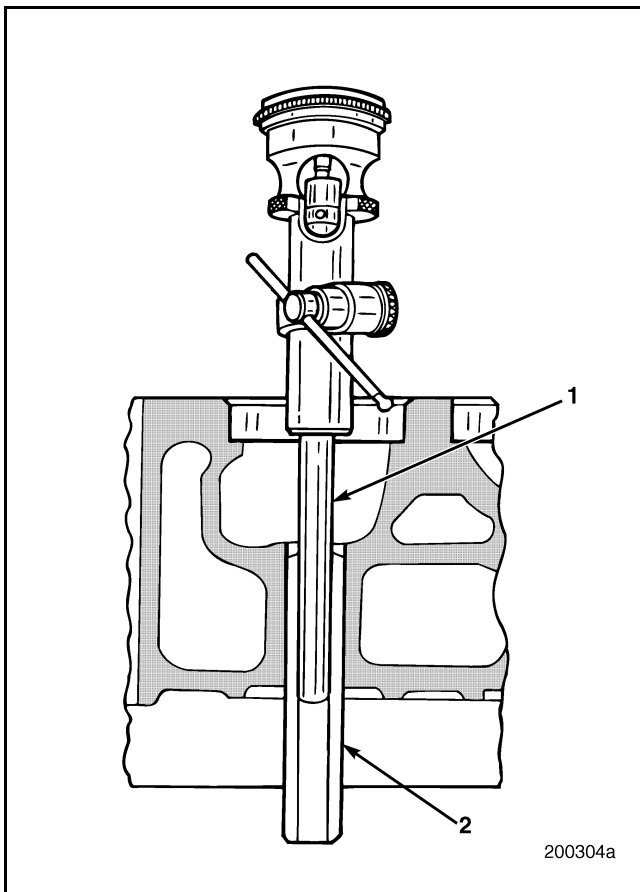

Figure 267 — Checking Valve Seat Runout
5. Determine the concentricity of each valve seat insert relative to the valve guide. Valve seat runout is to be held within 0.002 inch (0.051 mm) FIM (Full Indicator Movement). The measurements are to be taken from a snug-fitting arbor through-mounted into finished valve guides as shown in Figure 267.